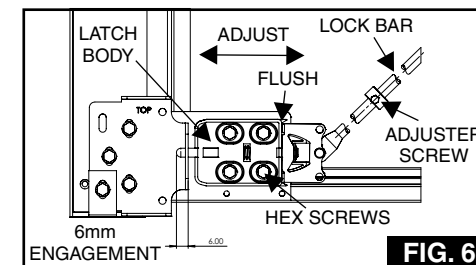

FIG. 6
From inside garage with door fully closed, check that latch pin has approximately 6mm engagement in latch keep (See Fig 6).
- prise off latch body cover and loosen off 4 Hex HD screws securing latch body to door (See Fig 6).
- Ensure bell crank is flush with latch body (See Fig 6) and re-tighten lock bar adjuster screw.